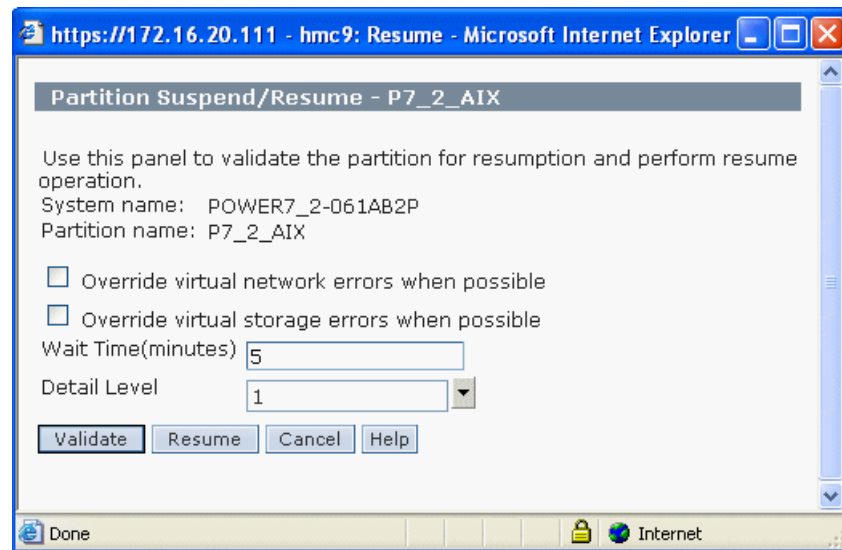

Figure 17-38 Starting partition resume operation
2. Verify, and modify if necessary, the information provided in the Partition Suspend/Resume window, as shown in Figure 17-38, then click **Resume** when you are ready to perform the resume operation.